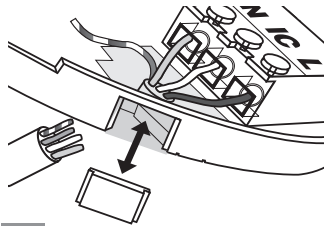

Fig.6
- (b) the mounting plate has a removable section, take it out to interface directly with 25mm trunking as shown in Figure 6. If interfacing to 16mm trunking carefully cut around the marked section, leaving the top intact and replace the section. (If you are not using surface wiring, the removable section must be left in place for electrical safety reasons).